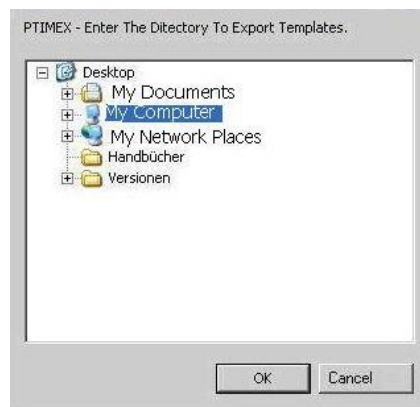

Figure 37: Dialog File Search
- 4) After selecting the template and confirming the selection with **OK**, a storage location for the export templates must be set in the opening window *Please refer to the Figure 37*.